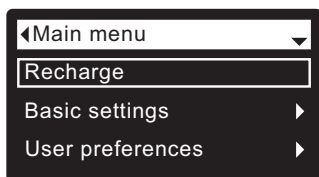

FIG. 38
2. Make sure **Recharge** is highlighted (See Figure 38).